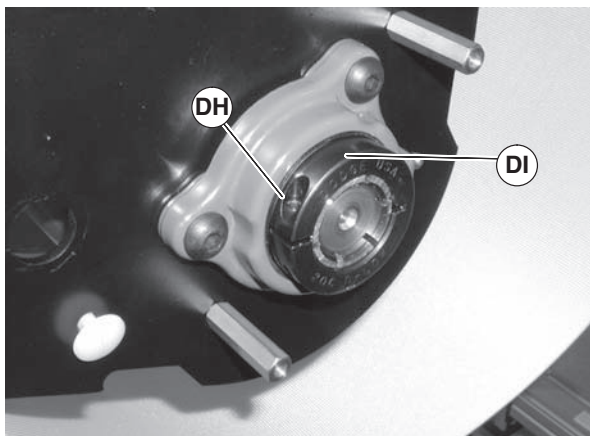

Figure 111
3. Loosen clamp screw (Figure 111, item DH) and remove bearing collar (DI).
7. Reinstall bearing collar (Figure 111, item DI). Tighten clamp screw (DH) to 95 in-lbs (11 N-m).